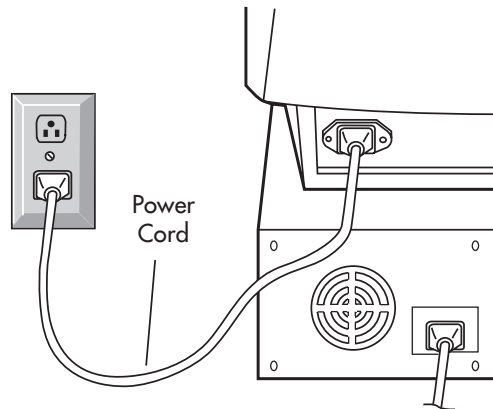

Figure C.1
5. Connect one end of the power cord to the Diamond Pro monitor and the other end to the power outlet (**Figure C.1**).